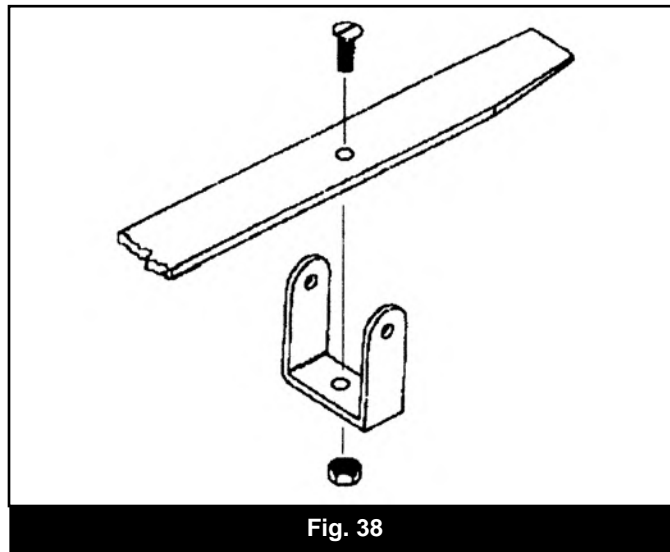

Fig. 38
8. Remove the OE leaf alignment clamps. Replace these clamps with the supplied bolt style alignment clamp 01113. After removing the OE clamp and rivet, install the new clamp with an 8mm flathead screw and nut from bolt pack 506 (Fig 38). Torque hardware to 20 ft-lbs.